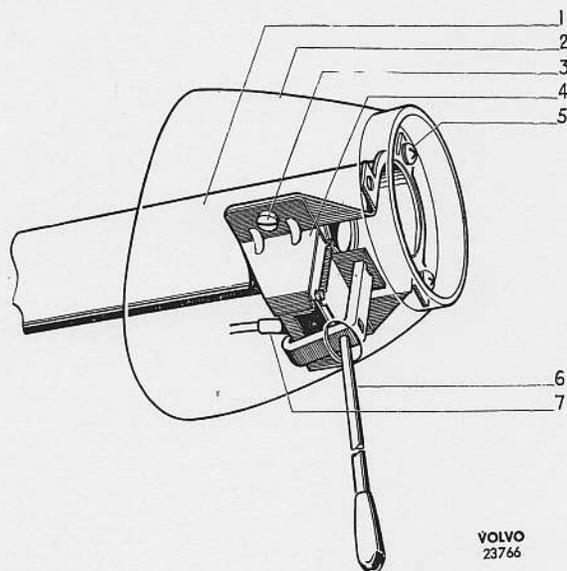

Fig. 35. Direction indicator switch.
2. Remove the three screws (5, Fig. 35) which hold the casing to the jacket tube and lift this up. Remove the leads on the underside of the switch. These are removed by pulling them out from their retainers.